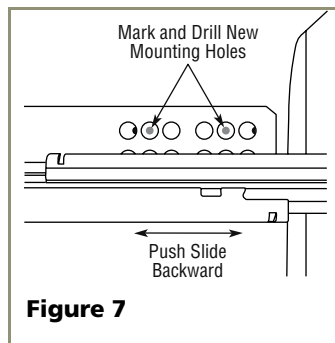

Figure 7
3. Mark new drilling holes using different sets of mounting holes on the slide. See **Figure 7**.